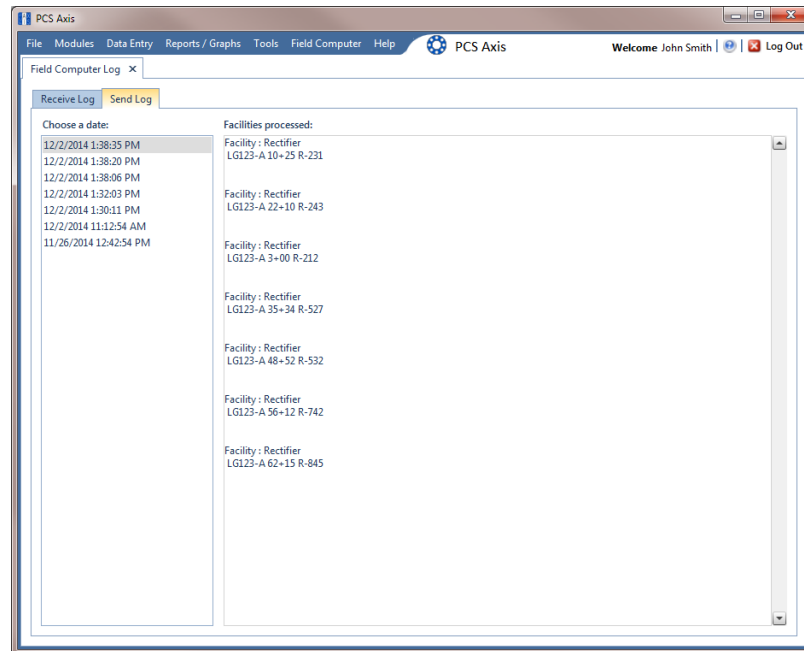

Figure 13-49. Field Computer Log / Send Log
- 3 Click the **Send Log** tab to view facility records sent to the Allegro (Figure 13-49).